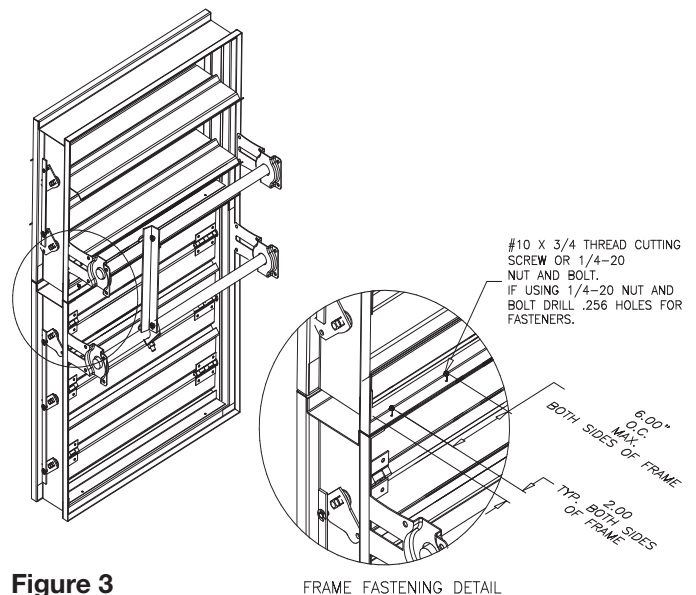

Figure 3
6. When the height of a face & bypass vertical style (FBV) is greater than 84 in. (2134mm), the damper sections are shipped separate and field assembly is required. Before fastening damper sections together, the non-actuated damper section will need to be flipped upside down so that the linkage is on the same side as the actuated damper. After damper sections are fastened together, attach interconnecting angle as shown in **Figure 3**.
7. If no holes are present in the frame, drill ¼ inch (6mm) diameter holes at six inch (52mm) centers and fasten frames together with ¼ inch (6mm) #20 (.03mm) bolts and nuts (**Figure 3**).